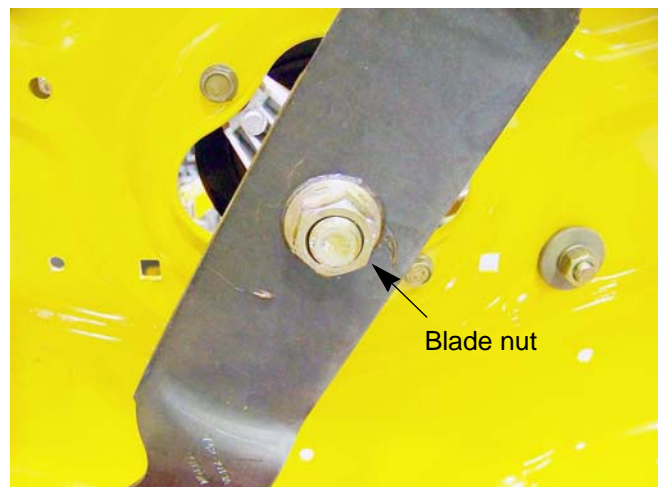

Figure 8.5
3. Remove the blade nuts using a 1 1/8" wrench. See Figure 8.5.